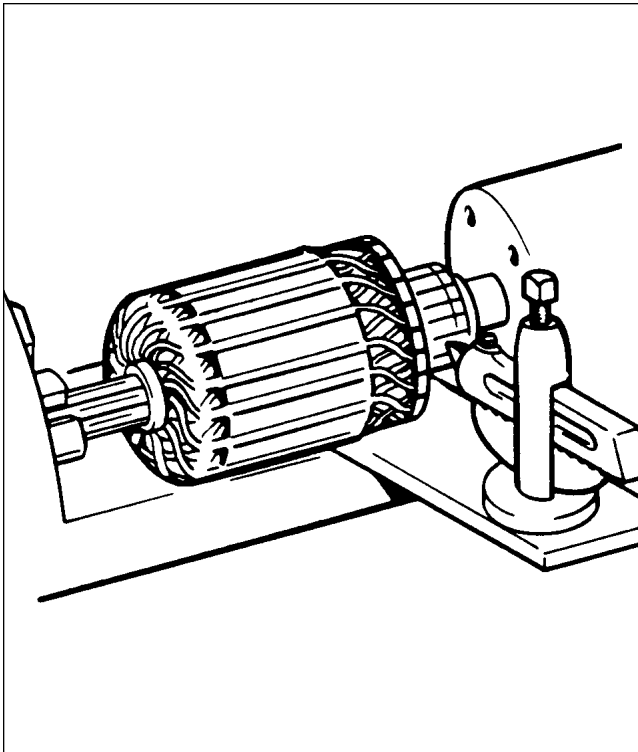

Figure 11-50. Turning Starting Motor Commutator
a. Check commutator for uneven wear, excessive glazing, or evidence of excessive arcing. If slightly dirty, glazed or discolored, commutator can be cleaned with 00 or 000 sandpaper. If commutator is rough or worn, turn in a lathe. (Refer to Figure 11-50.) Armature shaft must be inspected for rough bearing surfaces and rough or damaged splines.